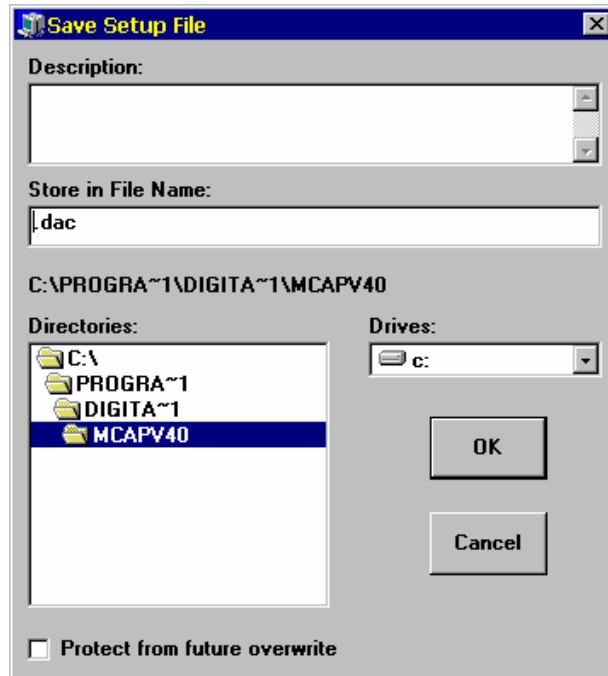

Figure 3-17 Tutorial Save Setup File Window
57. Click on **Save Setup File** to bring up the Save Setup File window as shown in Figure 3-17.